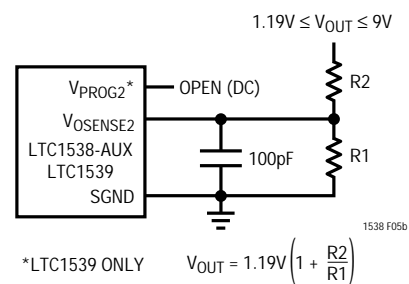

Figure 5b. LTC1538-AUX/LTC1539 Adjustable Applications
(DC) and the $V_{OSENSE2}$ pin is connected to the feedback resistors as shown in Figure 5b. Controller 2 will force the externally attenuated output voltage to 1.19V.